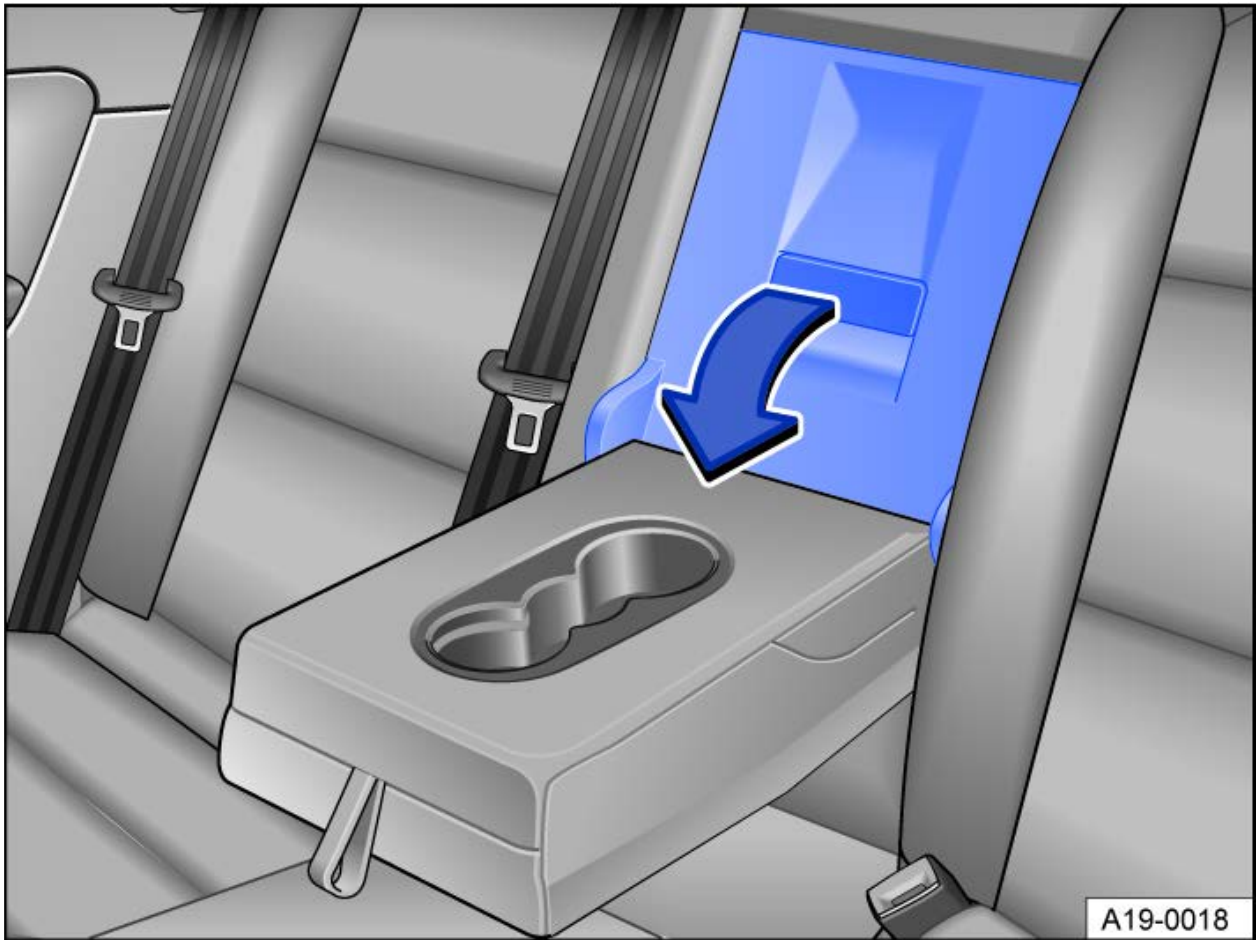

Fig. 1 In the rear seat backrest: Open load-through hatch.
- Open the Load-through hatch from inside the vehicle: Pull the release lever in the direction of the arrow → *fig. 1* and fold the flap for load-through hatch completely forward → *Load-through hatch*.